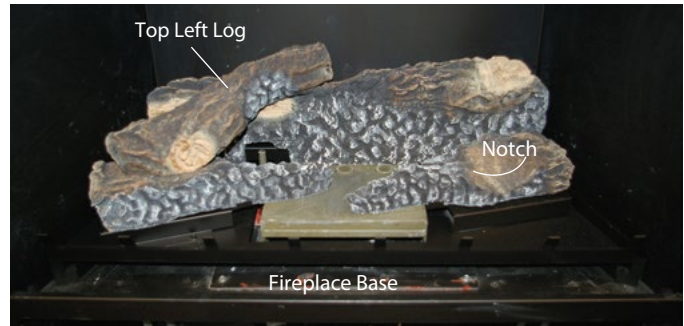

Figure 8d. Top Left log placement.
Step 4. Place the top left log as shown in **figure 8d**. A flat area is provided on the front left log, and a notch in the Rear bottom log, as shown in **figure 27c**. Install the glass door. If the flame does not appear satisfactory, double-check the air inlet and exhaust outlet pipe to ensure that they are unobstructed.